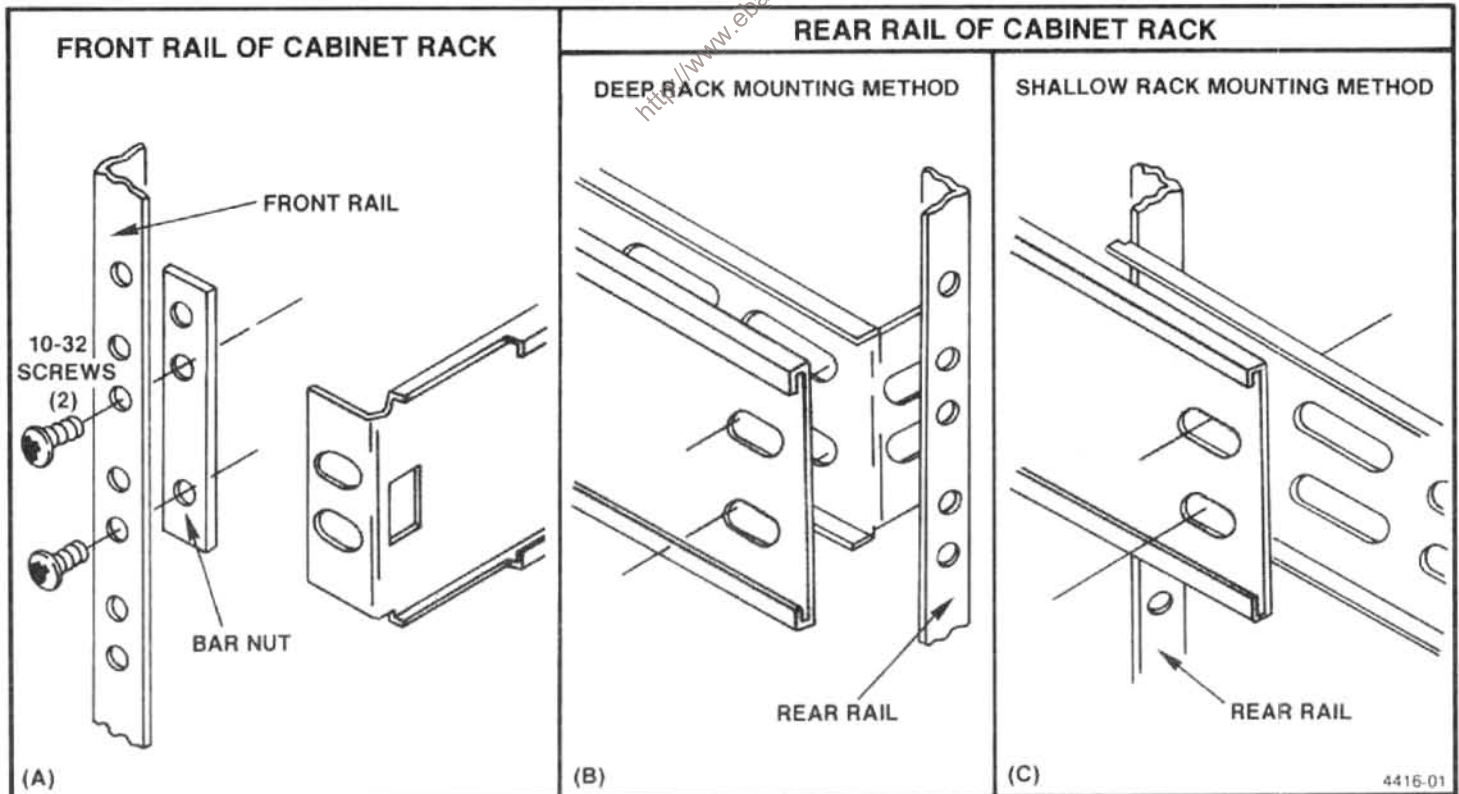

Figure 8-2. Installing the stationary sections (A) and alternative installation methods using rear-support brackets (B), (C).
a. If the front rails are not countersunk, use the truss head screws and bar nuts, using Figure 8-2 as a guide.
An alternate procedure for securing Options 30 and 31 using rear-support brackets is shown in Figure 8-2. The rear support brackets that are supplied with the instrument are to be used in a rack with 15 to 26 inches of space between the front and rear rails. (If the depth of the rack is less than 22 inches, the instrument will stick out of the back of the rack.)